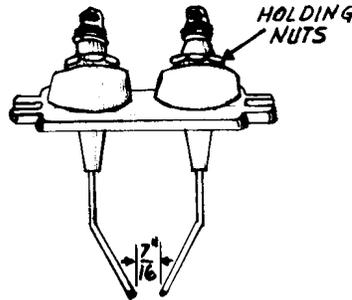

Figure 2.
4. Install the spark plugs in the Pyramid Bracket cover, rotate the plugs until the tips of the electrodes are centered and  $7/16$ " apart (see Figure 2), and then tighten the holding nuts securely.